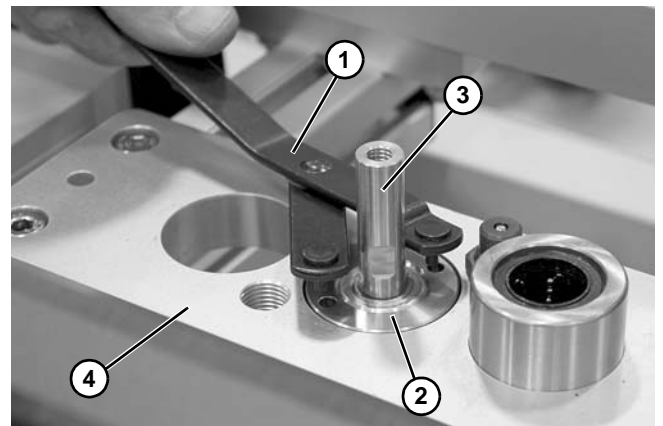

Figure 107
8. Using a spanner wrench (**Figure 107, item 1**), loosen and remove nut (**Figure 107, item 2**).
9. Remove cylinder (**Figure 107, item 3**) from mounting plate (**Figure 107, item 4**).